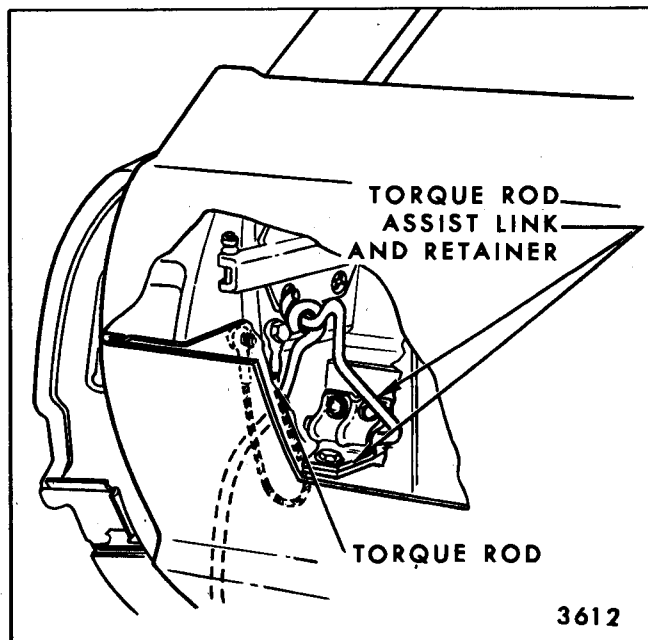

Fig. 9-55-Dual Acting Tail Gate Assist Link
4. Close the tail gate and open sufficiently as a gate to achieve a neutral torque rod position or until tension on torque rod has been relieved. With torque rod in a neutral position, remove torque rod assist link retainer attaching bolts (Figure 9-55) and disengage assist link from end of torque rod.